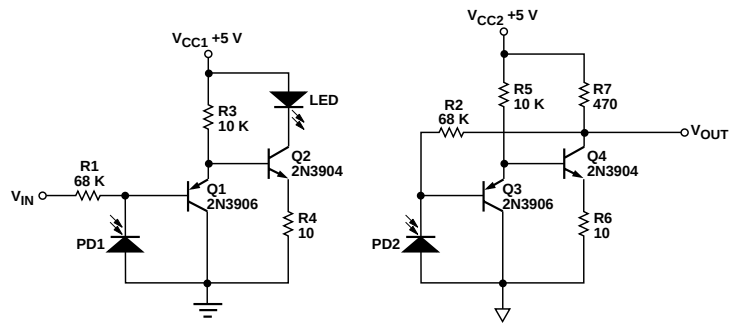

Figure 16. High-speed low-cost analog isolator.
8. IMRR is defined as the ratio of the signal gain (with signal applied to VIN of Figure 16) to the isolation mode gain (with VIN connected to input common and the signal applied between the input and output commons) at 60 Hz, expressed in dB.
The circuit shown in Figure 16 is a high-speed low-cost circuit designed for use in the feedback path of switch-mode power supplies. This application requires good bandwidth, low cost and stable gain, but does not require very high accuracy. This circuit is a good example of how a designer can trade off accuracy to achieve improvements in bandwidth and cost. The circuit has a bandwidth of about 1.5 MHz with stable gain characteristics and requires few external components.
Although it may not appear so at first glance, the circuit in Figure 16 is essentially the same as the circuit in Figure 12a. Amplifier A1 is comprised of Q1, Q2, R3 and R4, while amplifier A2 is comprised of Q3, Q4, R5, R6 and R7. The circuit operates in the same manner as well; the only difference is the performance of